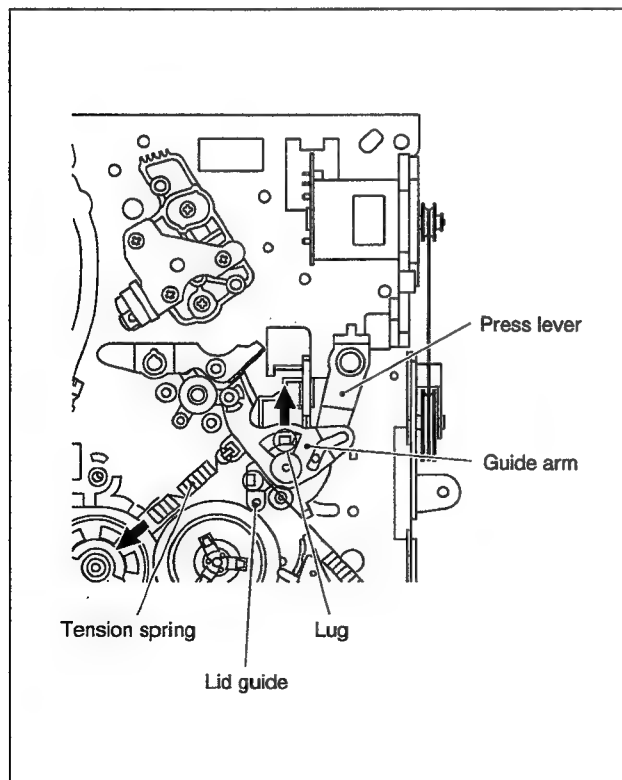

Fig. 2-2-11
- (1) Remove the spring and expand the lug of the lid guide in the arrow-indicated direction. Then remove the guide arm by pulling it up.
- (2) Remove the press lever by pulling it up. (See Fig.2-2-11)